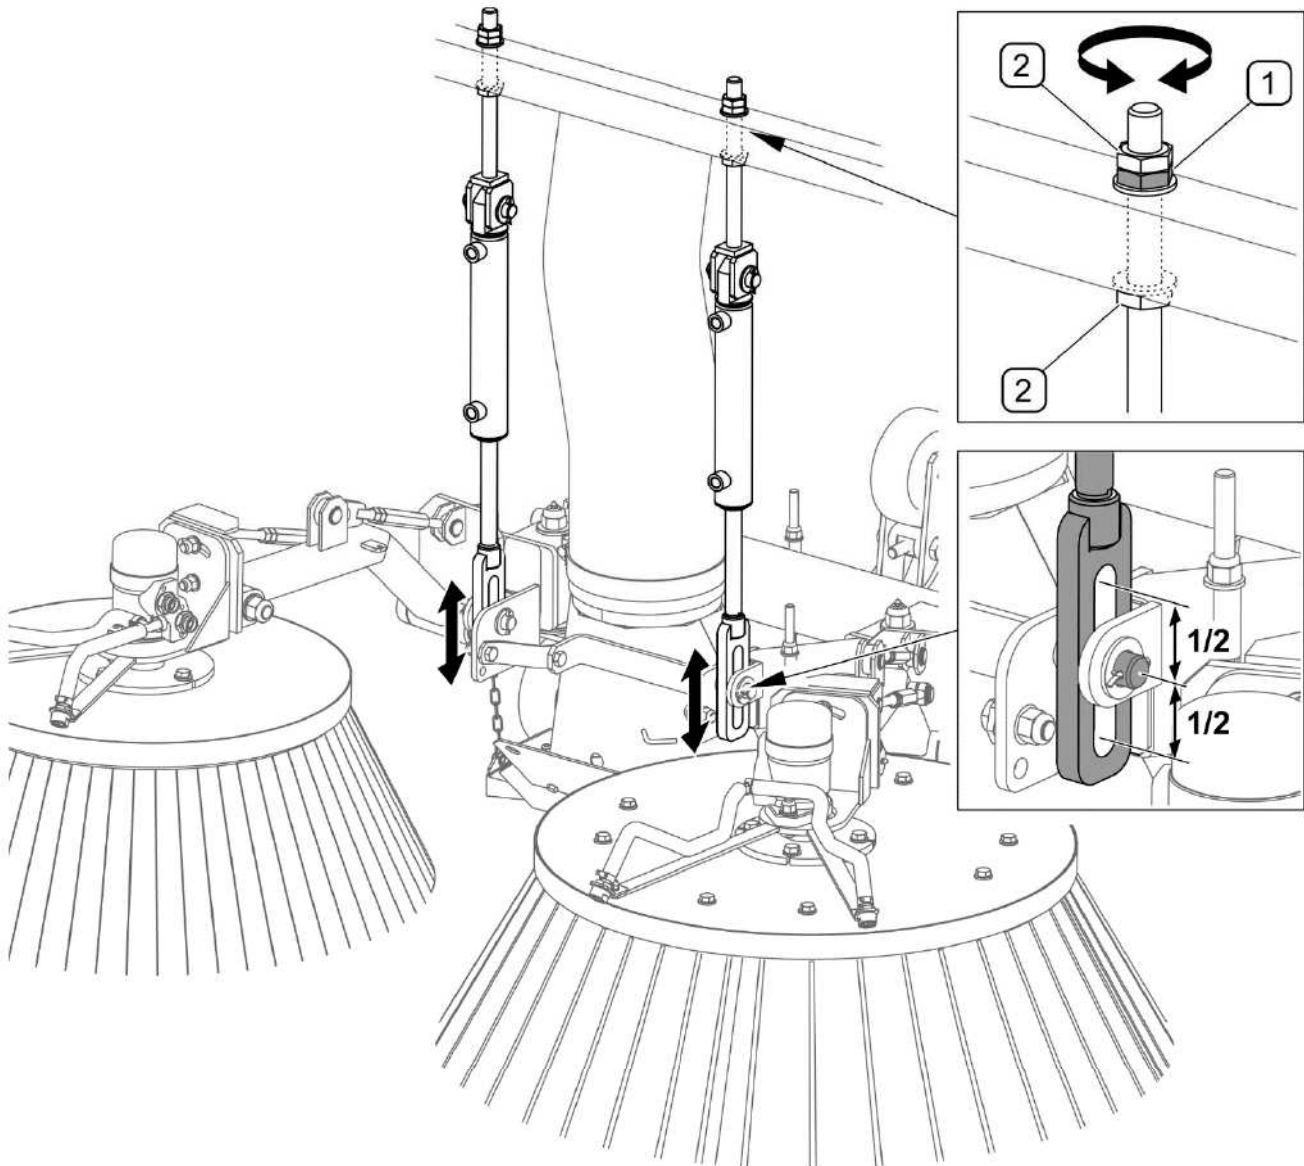

FIG. 5.10 Adjustment of ground surface tracking
- 5) Adjustment of ground surface tracking (FIG. 5.10)
(1) - adjustment nut; (2) - counter nut
When the sweep unit is lowered, the fixing pin should be located at the mid-height of the oblong recess (FIG. 5.10). Proper setting of sweep unit suspension enables movement in vertical plane and tracking small unevenness of ground. If necessary, loosen counter nuts (2) and set properly the suspension of right cylinder and left cylinder by means of nut (1).